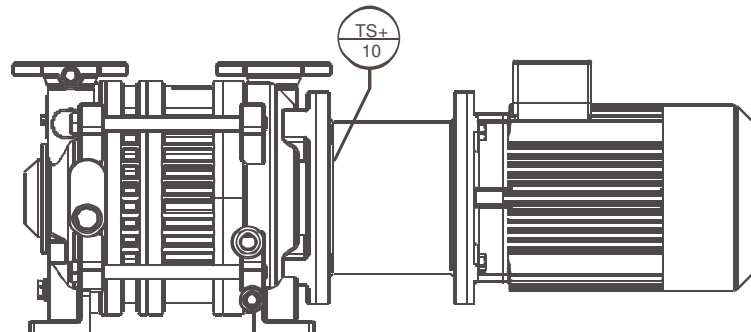

Fig. 7.3. MCR at the liquid-ring compressor with magnet coupling
- Compressor with magnetic coupling (comp. Fig. 7.3)